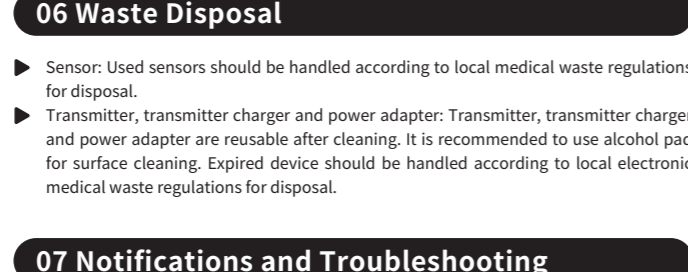

Figure 40 Invite Followers
- Tap Add to invite your Followers. Enter the Follower' s email address and add notes as shown in Figure 40. Your Followers open their email invitation on their smartphones that they' ll use to follow you. They can then download, install and set up their AnytimeFollow or log in their existing AnytimeFollow account to see your monitoring information.